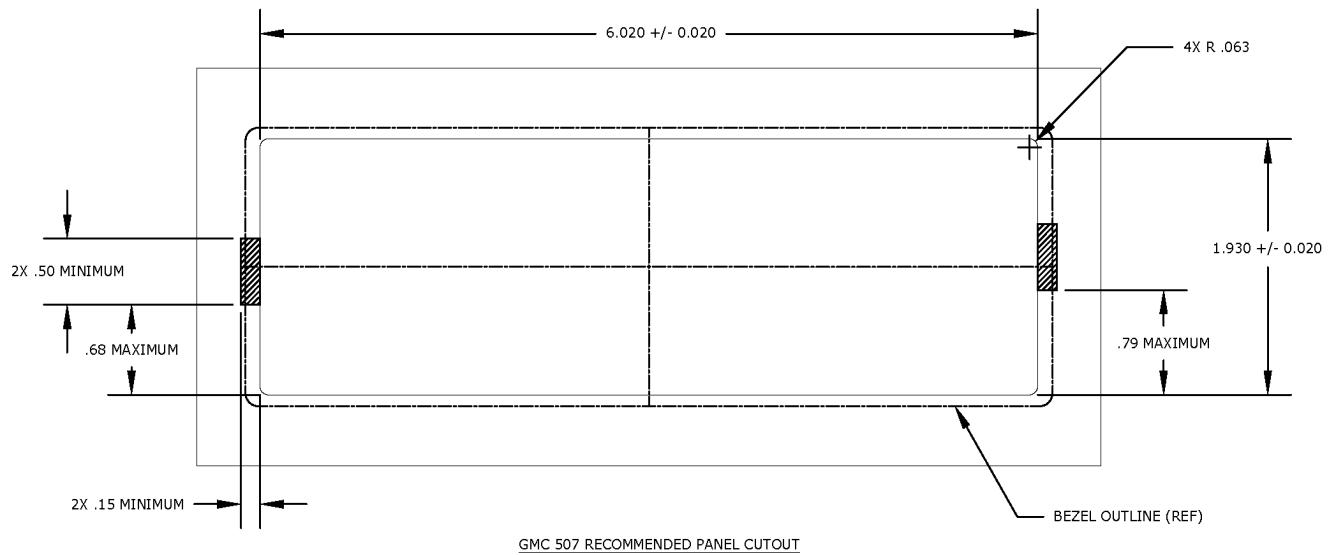

Figure 4-15 – Panel Cutout Detail for GMC 507 without Rack
The hatched areas shown in Figure 4-15 are areas on the far side of the panel that will be used as the electrical bonding path for the pawl latch fasteners. These areas must be free of paint and prepared as directed in Section 3.5.1.
3. Dimensions of the new hole must be as shown in Figure 4-15